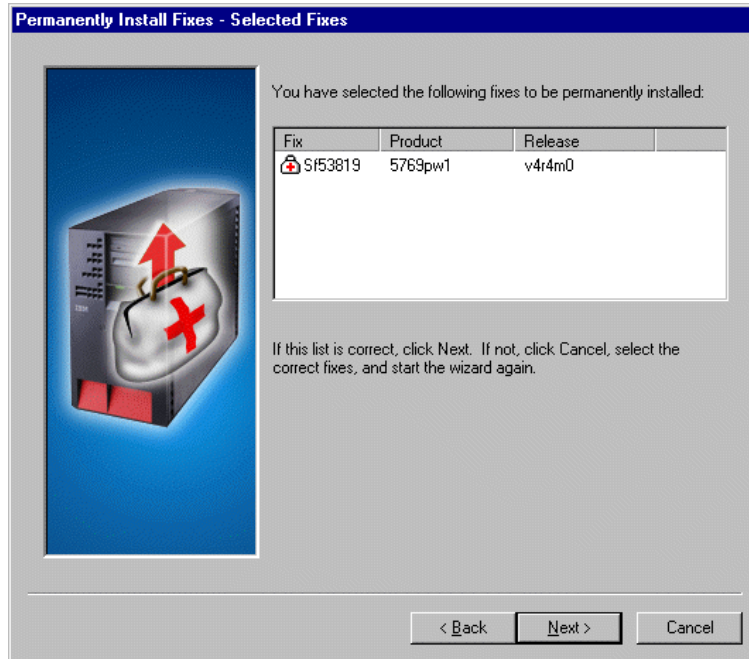

Figure 96. Permanently Install Fixes wizard: Selected Fixes window
5. Read the information on this window to ensure that this is what you want to do. Click **Next** to move to the Selected Fixes window, which is displayed in Figure 96 on page 118.